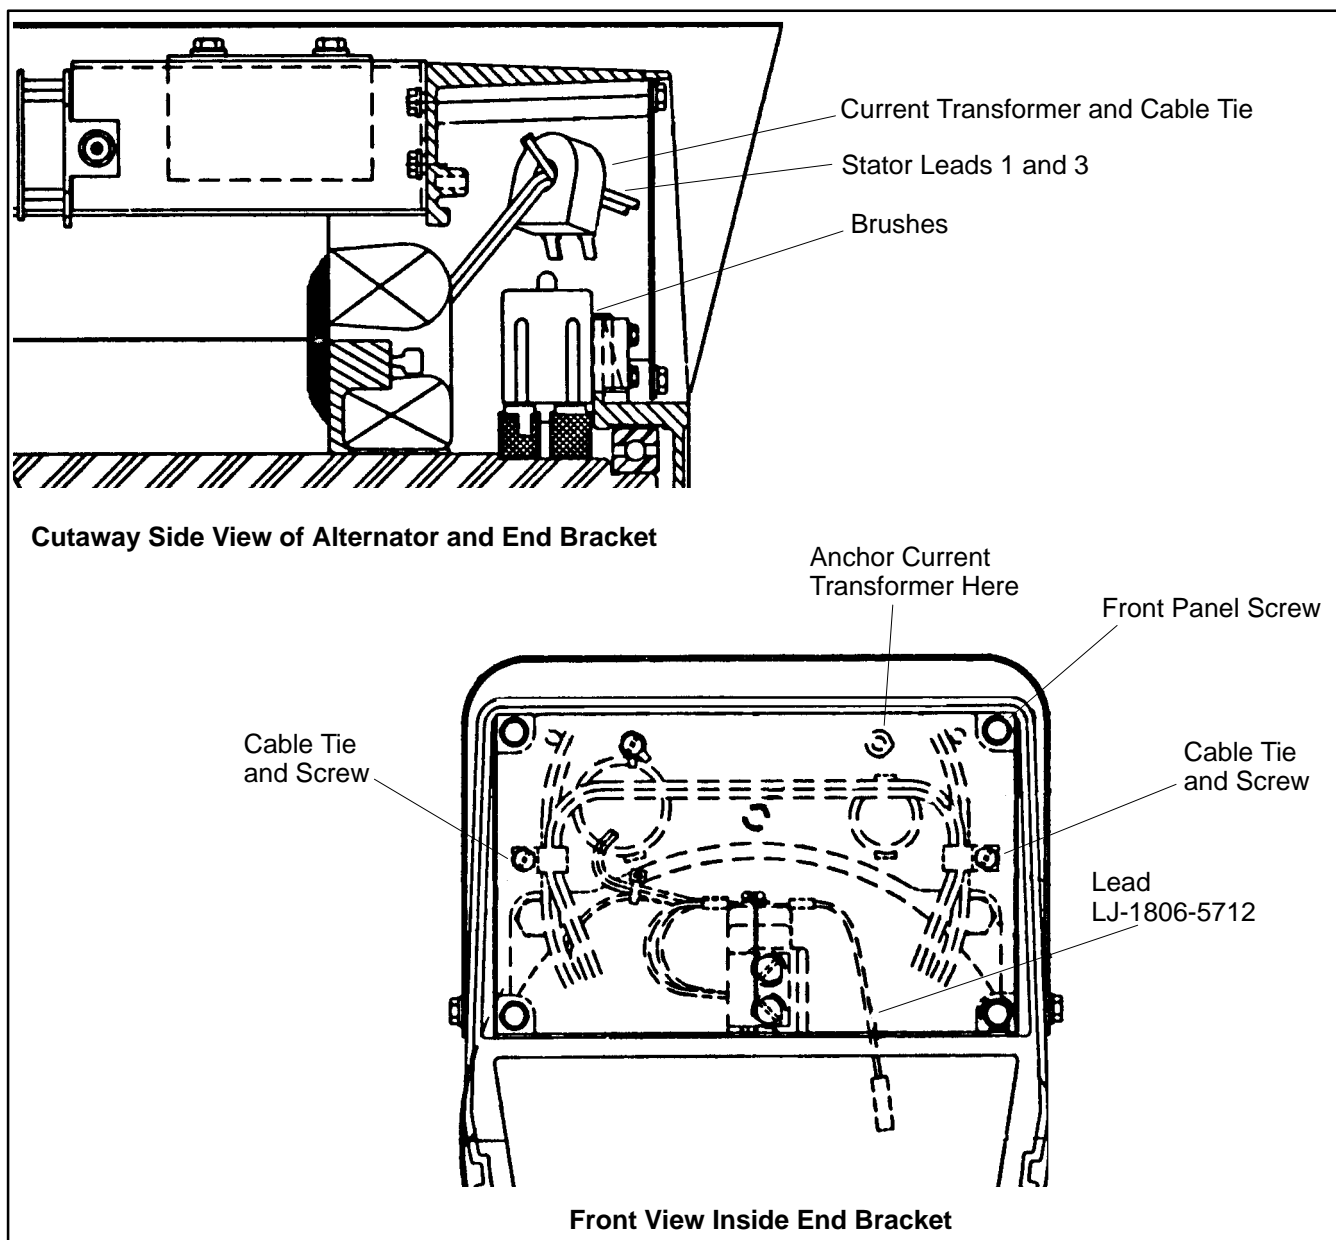

Figure 4. End Bracket Views and Contents.
9. Remove the cable tie screws and cable ties on each side of the end bracket to gain access to the leads. Take note of which leads are secured. See Figure 4.
11. Locate stator leads 1 and 3. Place the leads through current transformer 269197 so that the leads enter the transformer from the side without the terminals and exit on the side with the terminals. See Figure 4. Connect leads 1 and 2 of wiring harness 239263 to the current transformer and coat the terminals with RTV compound.